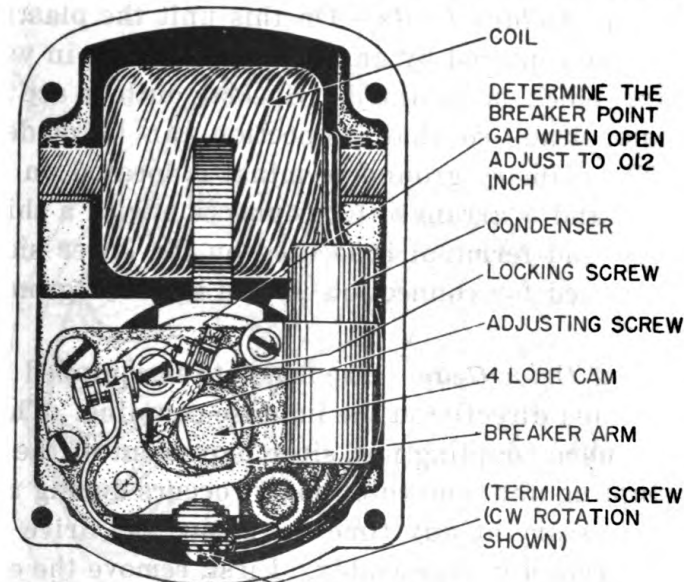

Figure 20.—Magneto Point Adjustment
f. Service of Breaker Contact Points.—Contact point adjustment necessitates removal of the distributor housing which has a sealed gasket joint with the metal housing. The contact points should be examined for evidence of pitting or pyramiding. A small tungsten file or fine stone may be used to resurface the points. If the points are worn or badly pitted, they should be replaced. Points should be adjusted to have a .012 inch gap at full separation. Adjustment is made by loosening the round-head locking screw at the upper end of the stationary point bracket (figure 20) then turning the eccentric head adjusting screw until the proper gap is obtained, and locking the assembly by tightening the round head screw.